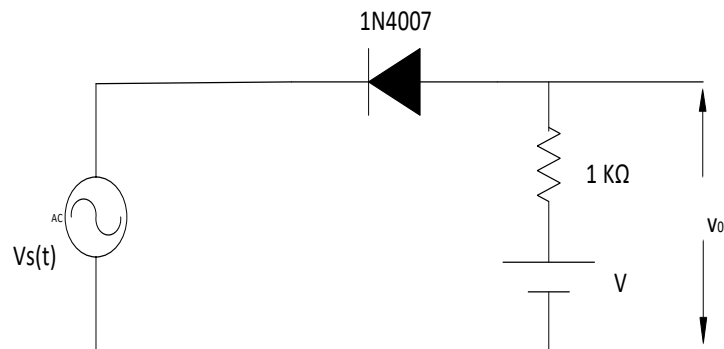

Figure 8.1 : Circuit diagram for Comparator
8.1 Design a comparator circuit as shown in figure 8.1 using digilent analog discovery kit and draw the output waveform.